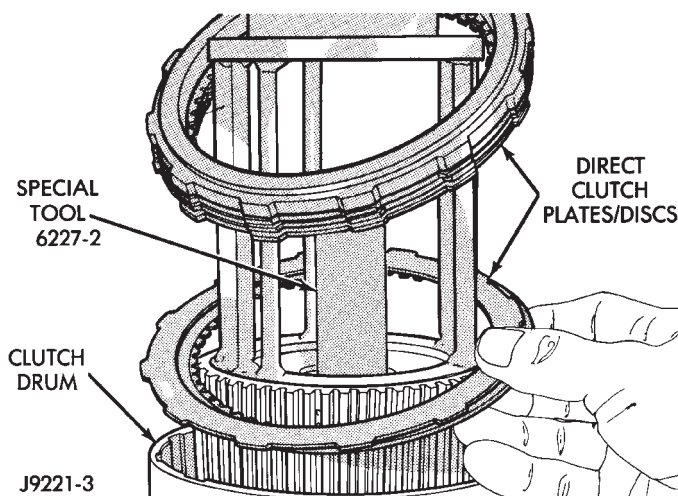

Fig. 343 Seating Clutch Pack In Drum
(26) Slowly compress clutch hub and spring (Fig. 343). Compress spring and hub only enough to expose ring grooves for clutch pack snap ring and clutch hub retaining ring.
(27) Realign clutch pack on hub and seat clutch discs and plates in clutch drum (Fig. 343).